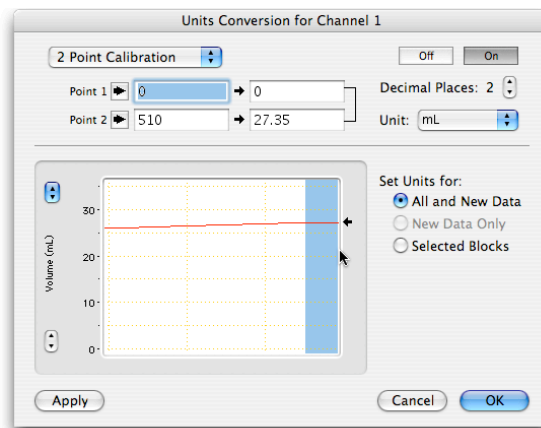

Figure 5. The Units Conversion dialog box is used to calibrate the Drop Counter.
15. From the Volume channel function pop-up menu, choose **Units Conversion**. A dialog box will appear (Figure 5).